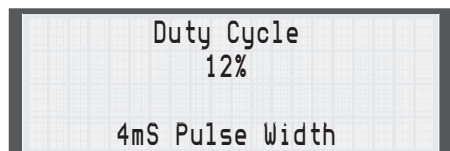

Fig. 5.25
4. Press the Duty Cycle key and use the Arrow keys to scroll to the desired duty cycle and then press the Enter key (**Fig. 5.25**). Note that if Direct Current was selected as the pulse type, neither frequency nor duty cycle can be selected for that waveform as these have no meaning for Direct Current. If burst of pulses was selected, two frequencies and two duty cycles must be set.